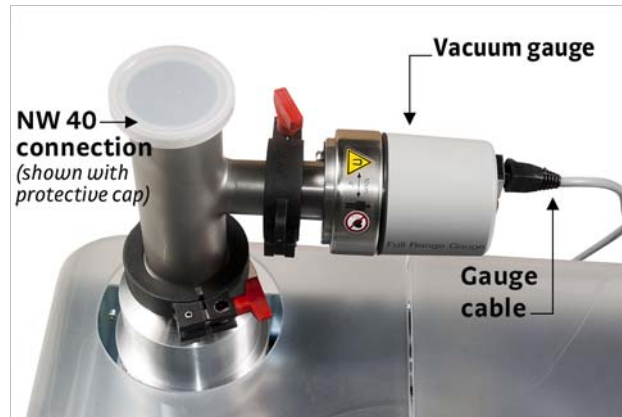

FIGURE 3-24 Vacuum gauge attachment
1. If the vacuum gauge is not already installed on the turbo vacuum pump as shown in FIGURE 3-24, remove the protective caps. Then use the provided NW 40 T clamps and center rings to attach the gauge as shown in FIGURE 3-24.
2. Attach the supplied gauge cable to the connector (FIGURE 3-24). If not already done, attach the other end of the cable to the connector on the back of the turbo pumping system.